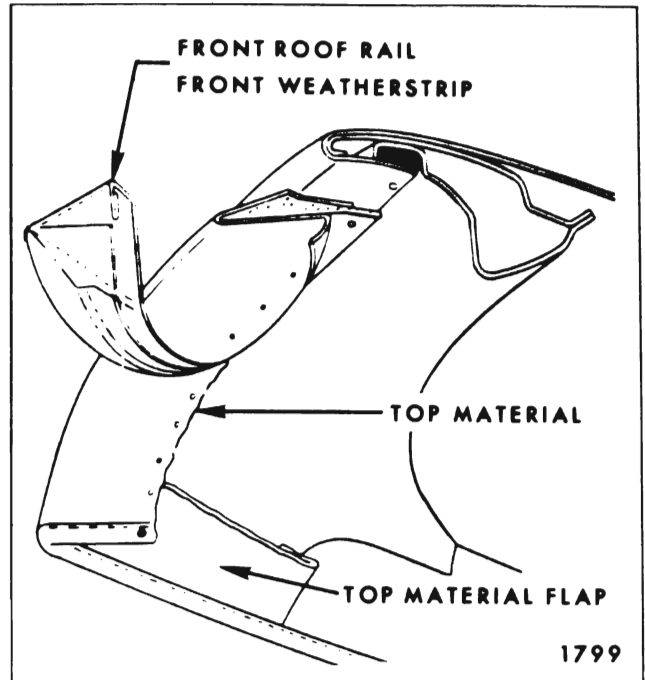

Fig. 13-30—Top Material At Front Roof Rail
Fasten flaps to side roof front rails. (See Fig. 13-30).
10. Detach top material flaps from side roof front rail (Fig. 13-30).